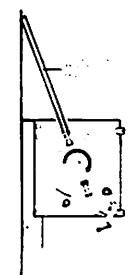

FIGURE 8
- E. Repeat procedure until Tension Wheel and Tension Wheel Bolt are in place as shown in Figure 8.